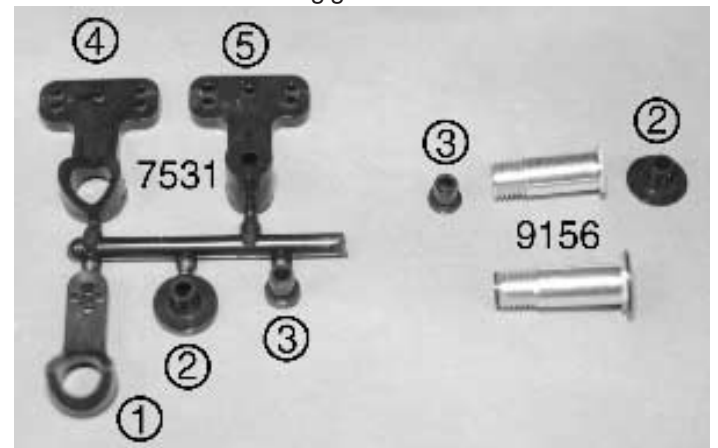

Fig. 29
❑ **Fig. 29** Inside the same bag #7-2 you will find the #7531 black plastic servo saver parts tree and the #9156 aluminum servo saver tube. The names of the parts on the parts tree are: (1) left upper servo saver arm, (2) lower servo saver bushing, (3) upper servo saver bushing, (4) left lower servo saver arm, (5) right side bellcrank. Remove the two servo saver bushings and install them into the servo saver tube. The upper bushing goes into the threaded end of the tube and the lower bushing goes into the hex end of the tube.